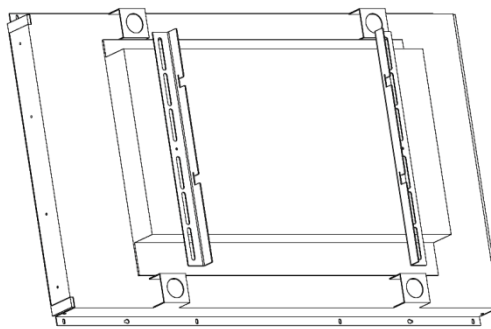

Figure 4
- STEP 10:** Using the diagram shown in Figure4, fasten the brackets with the 4 or 6 screws suited to your LCD Display type.